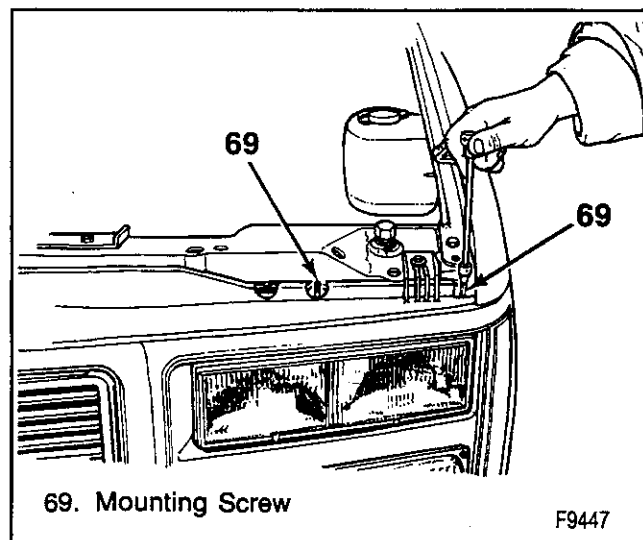

Figure 20—Composite Headlamp Removal
Remove or Disconnect (Figures 20 and 21)
3. Two long screws from the top of the radiator support (figure 20).
Install or Connect (Figures 20 and 21)